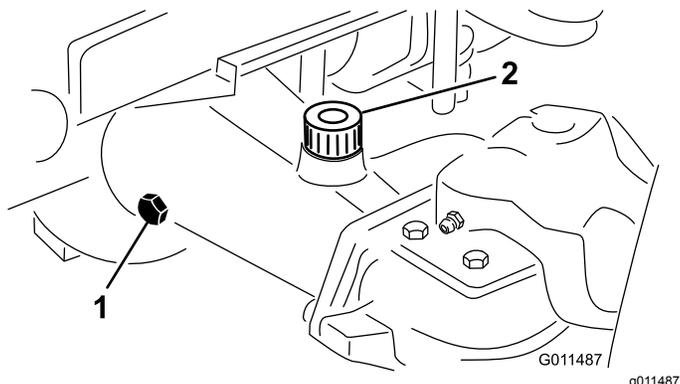

Figure 18
2. Remove a check plug from 1 end of the axle and ensure that the lubricant is up to the bottom of the hole (**Figure 18**).